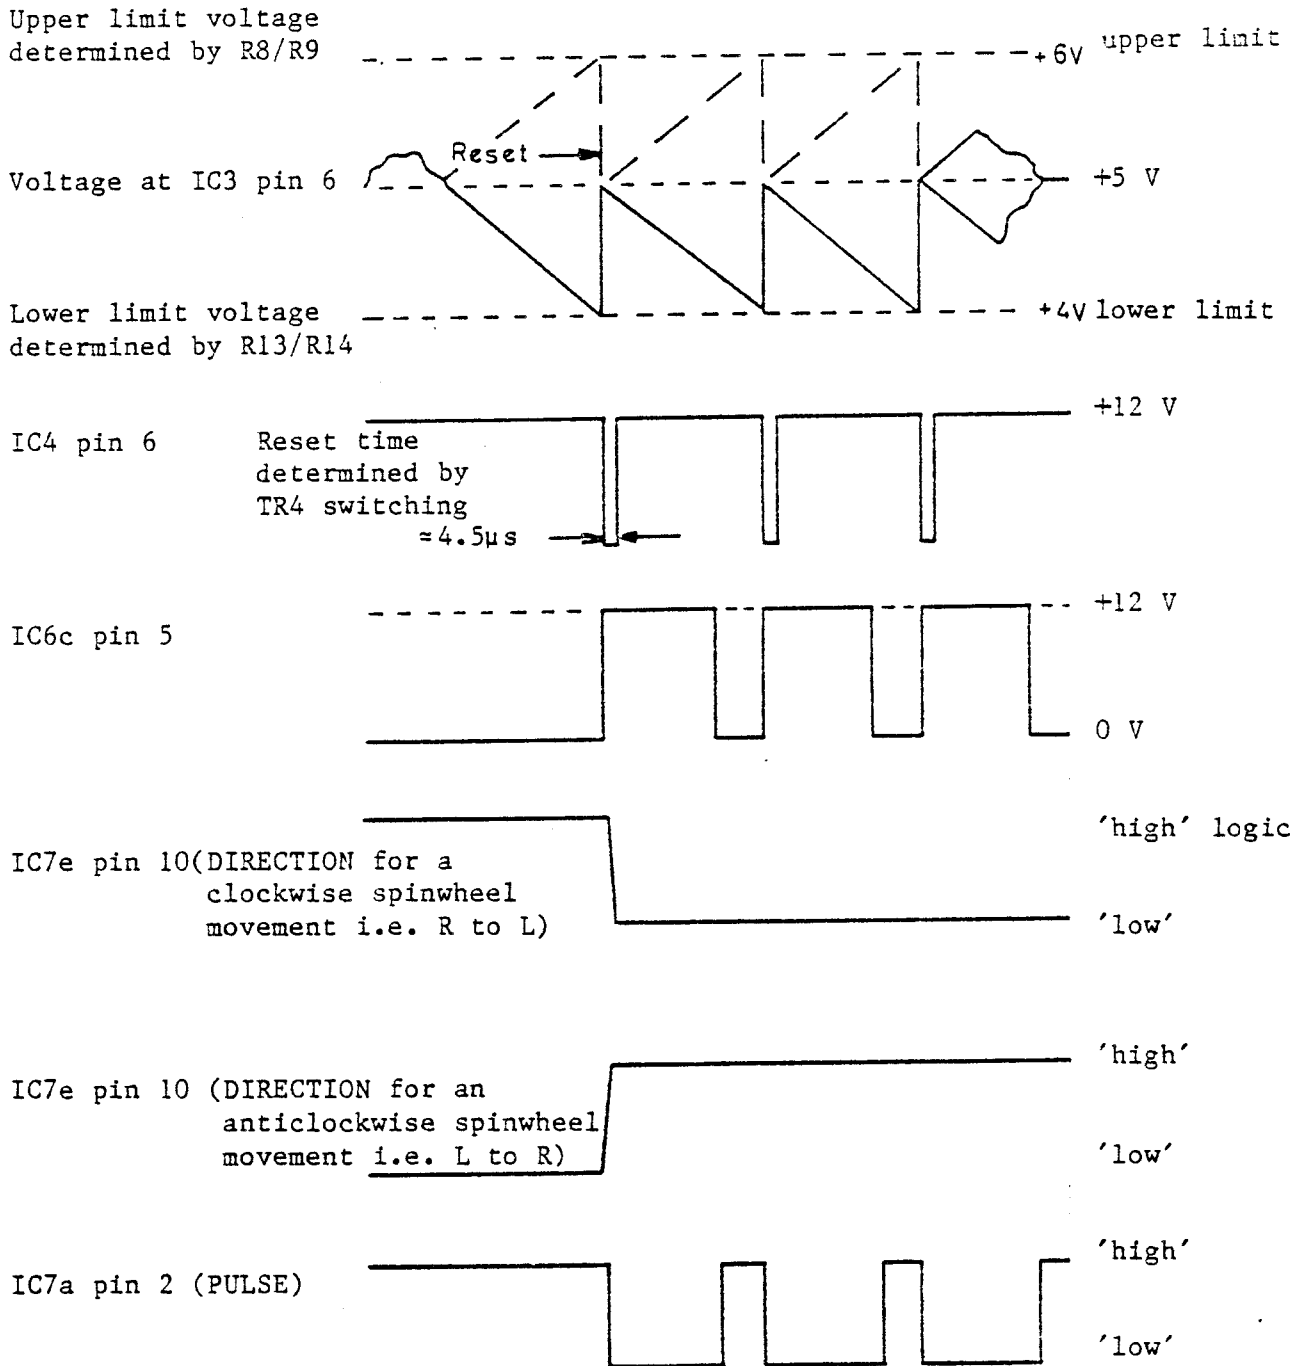

Fig. 6 Spinwheel (Brightline) control timing waveforms (AF01/AF02)
55. One function of the window comparator is to operate the flip-flop IC6d/IC6e, this is set to indicate the 'Direction', its output is placed on the data bus via IC7e and IC9 pin 4. This data remains valid until the direction of the spinwheel is changed, when this occurs the flip-flop changes state and with it the data output. Details of this and other output conditions are shown in Fig. 6 below.